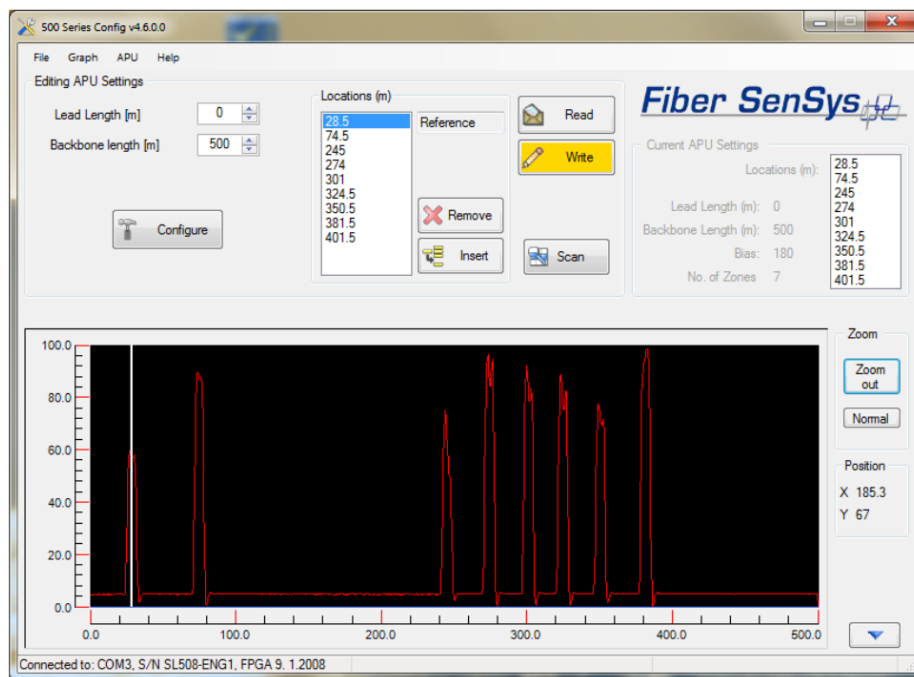

Figure 4-4. Final configuration view, showing spikes (reflections) for each of the sensing fibers, plus the internal reference reflection.
- ✓ You should see a series of spikes in the trace (see figure 4-4).